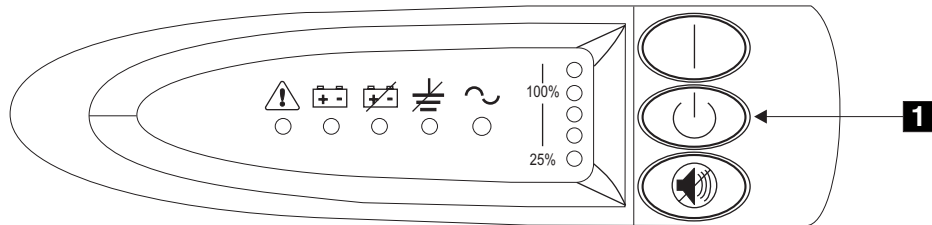

Figure 254. 2145 UPS front-panel assembly
1. At the front of the 2145 UPS, press and hold the off button (1 in Figure 254) for approximately five seconds or until the long beep stops.